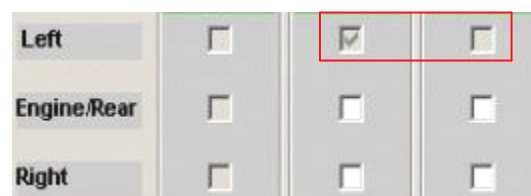

Figure 69: Blocked and Unassigned Workplaces
Workplaces can only be blocked if they have not yet been assigned by a process. Blocked workplaces are marked by a grey box in this dialog. If blocking is made by a MultiCycle (marked by a red rectangle, *Please refer to the Figure 69*) i.e. a process comprising at least two stations, it is marked by a checkmark in the grey field. Boxes next to the workplaces that are not greyed out can be blocked.
- 2) To block a workplace, click empty box. A blocked workplace cannot be checkmarked. *Please refer to the Figure 69.*